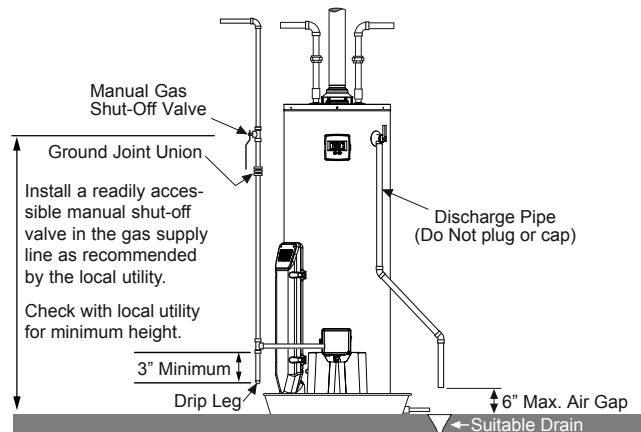

FIGURE 3.
**NOTE:** Use pipe joint compound or teflon tape marked as being resistant to the action of petroleum gases (See Figure 3.)